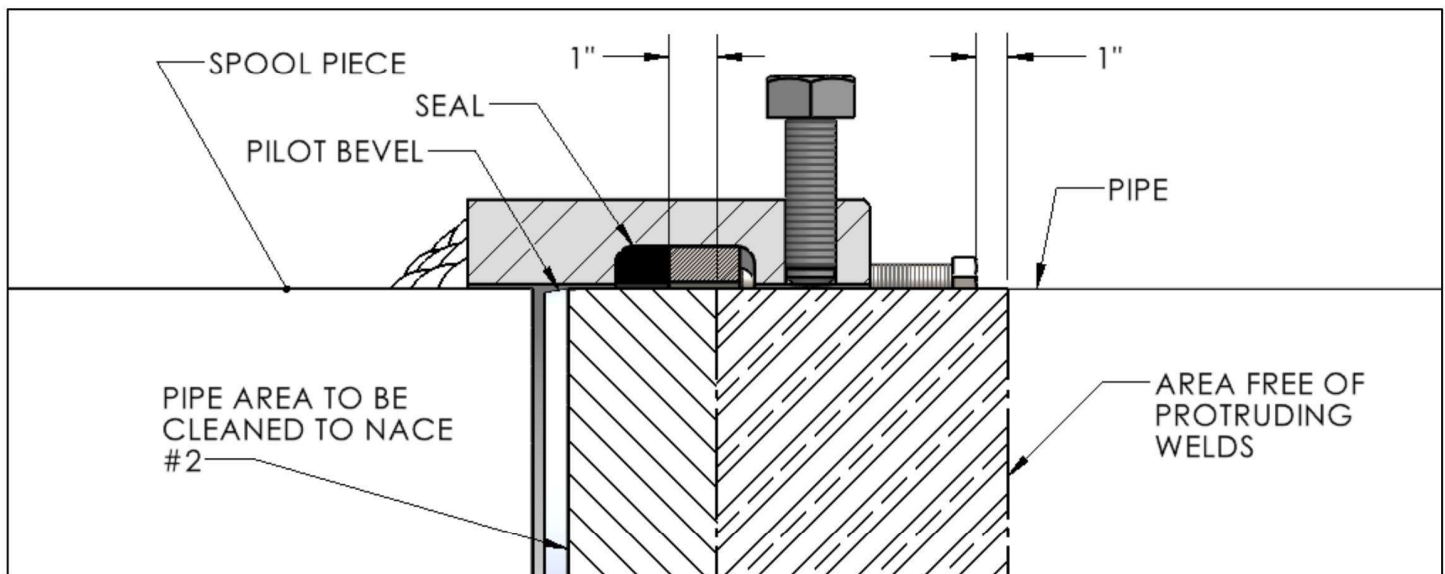

Figure 3
2. The existing pipe end should be cut reasonably square with any sharp ends or burrs removed. A taper or pilot bevel is recommended to allow for easy assembly as shown in Figure 3. This will mitigate the risk of damage to the seal while sliding the Half Weld+End over the end of the pipe.
4. The area around the location where the seal will come into contact with the pipe must have a finer cleaning. A near-white finish, as noted in SSPC-SP10 / NACE No.2, is preferred in and around the seal area as shown in Figure 3. The cleaner the pipe surface, the more positive the seal. Sandblasted surfaces should be buffed till smooth to remove roughness.